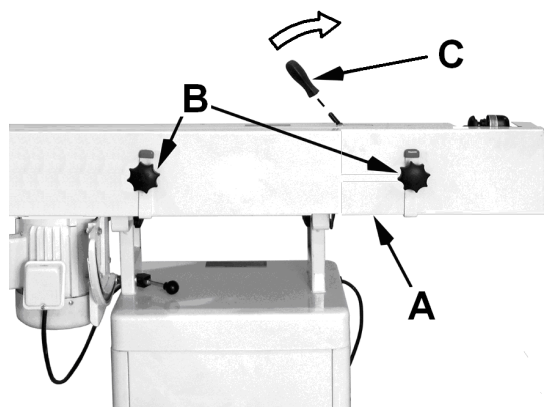

Fig 4
Remove the belt guards (A, Fig 4) by unscrewing two lock knobs (B).